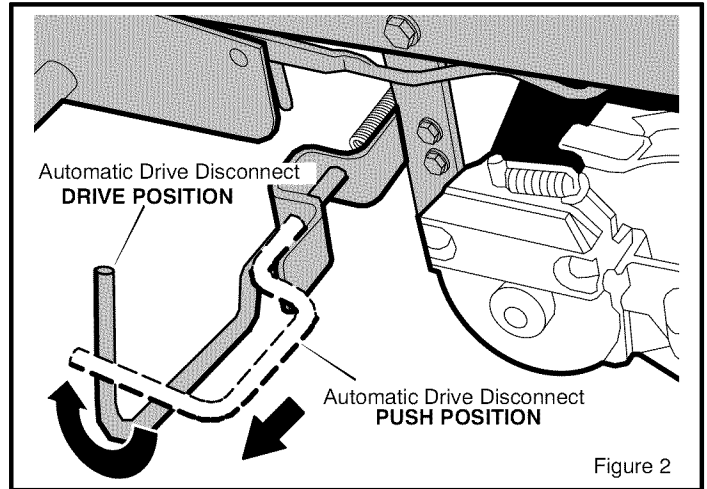

Figure 2
To allow the unit to be pushed, the unit was shipped with the **automatic drive disconnect** in the PUSH POSITION. Before operating, the **automatic drive disconnect** must be set in the DRIVE POSITION. (Figure 2)
4. To release the transmission and push the unit, pull and twist the **automatic drive disconnect**. Latch the **automatic drive disconnect** in the PUSH position (Figure 2). The transmission is now *released* and the unit can be pushed.